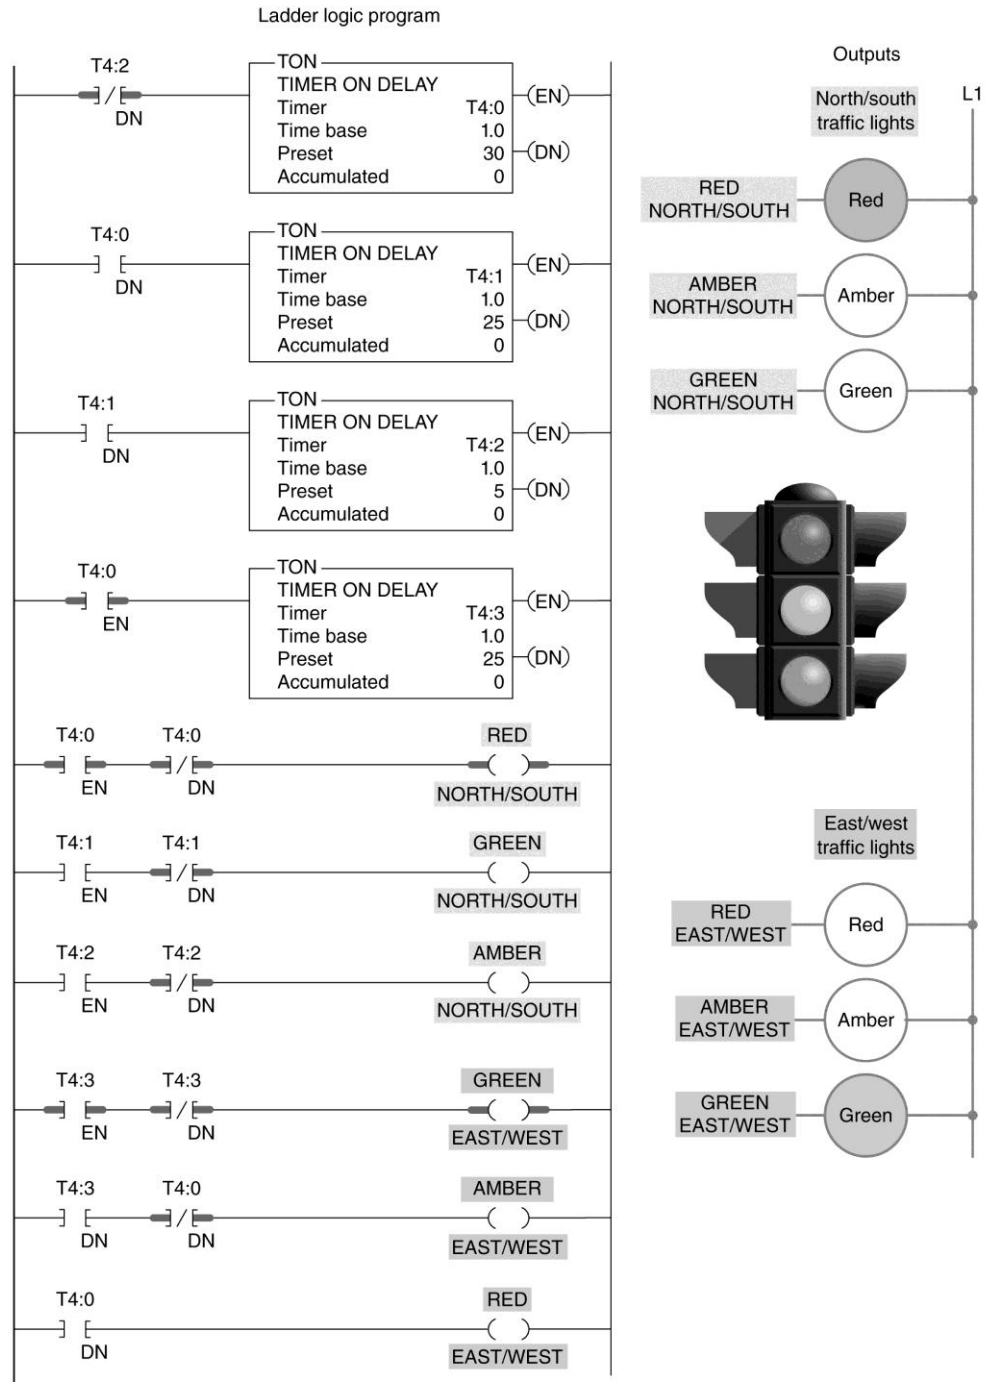

Figure 7-32 Traffic lights program for assignment 16.
16) The program of Figure 7-32 is described in the text and is used for control of traffic lights in two directions. Prepare an I/O connection diagram and ladder logic program for the process. Use addresses that apply to your PLC. Enter the program into the PLC, and prove its operation